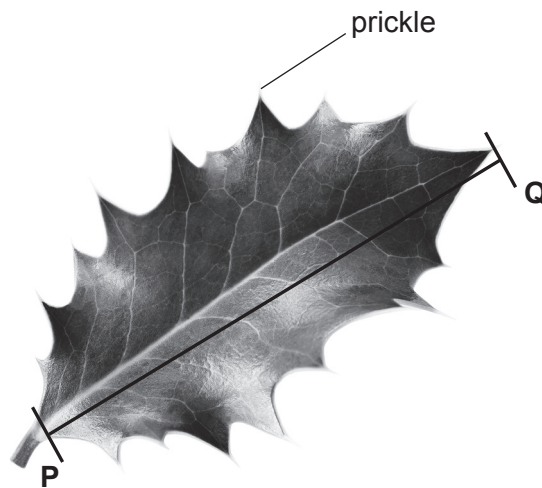

Fig. 2.1
- 2 (a) The photograph in Fig. 2.1 shows a leaf from a European holly tree (*Ilex aquifolium*).
- (i) Draw a large diagram of the holly leaf shown in Fig. 2.1.
- (ii) The line **PQ** on Fig. 2.1 shows the length of the leaf.
Measure the length of line **PQ** on Fig. 2.1. Include the unit.
Draw a line on your drawing in the same position as line **PQ** in Fig. 2.1.
$$\text{magnification} = \frac{\text{length of the line on your drawing}}{\text{length of line } \mathbf{PQ} \text{ in Fig. 2.1}}$$